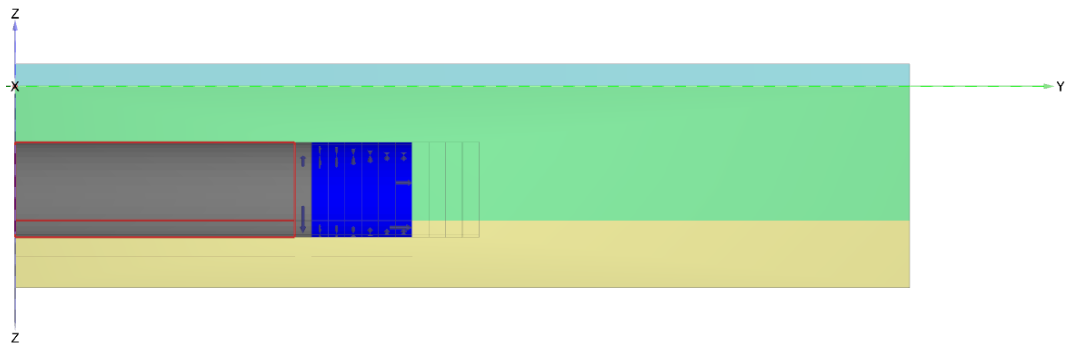

Figure 5-27: Deactivated soil volumes corresponding to final lining (0 m - 25 m), wireframe view
- a. In the drawing area select the soil volumes representing the final lining of the first 25 m of tunnel and deactivate them (Figure 5-27 \(p. 107\))